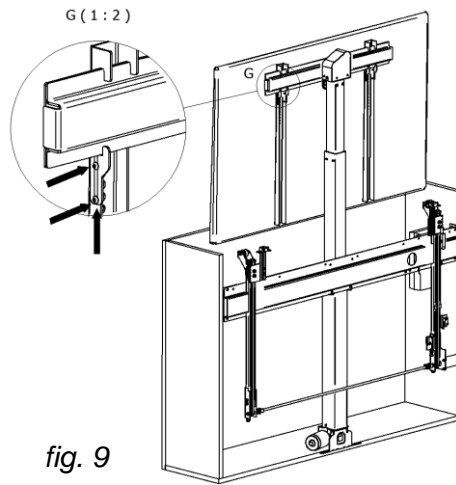

fig. 9
9. Move the vertical beams lock in the accordance with an arrow (fig. 9), and then tighten them with an allen key (page 16).